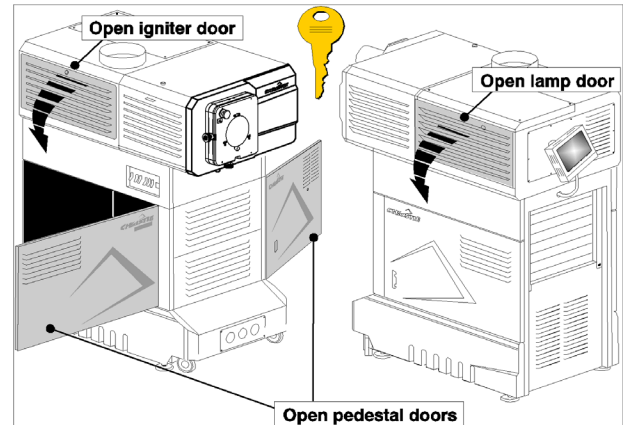
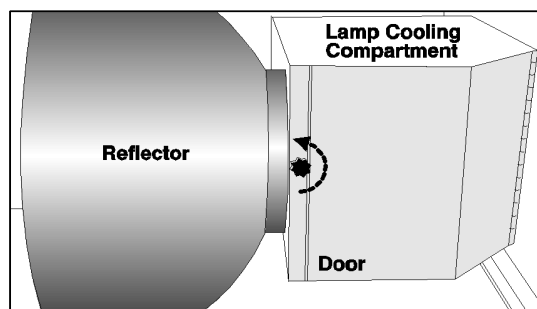

Figure 2-5 Open Projector for Access
Figure 2-10 Accessing Cathode End
- a. Open both pedestal doors (**Figure 2-5**).
5. With the lamp door removed (refer back to **Figure 2-5**), turn the small knob and swing open the lamp cooling compartment door (**Figure 2-10**).